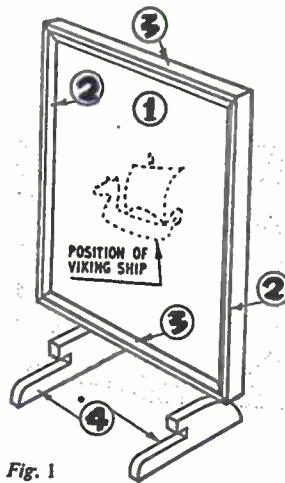

Fig. 1
Next make up the feet which are shown full size (4) on the design sheet. Cut two feet from  $\frac{1}{2}$ in. wood and glue them to the frame  $4\frac{1}{2}$ ins. in from the edges as shown at (C) on the design sheet, and in Fig. 1.
When completed, the ship assembly is glued just above the centre on the hardboard panel as seen in Fig. 1. After settling on the position, it will be necessary to scrape away some of the paint on the panel to ensure good adhesion.